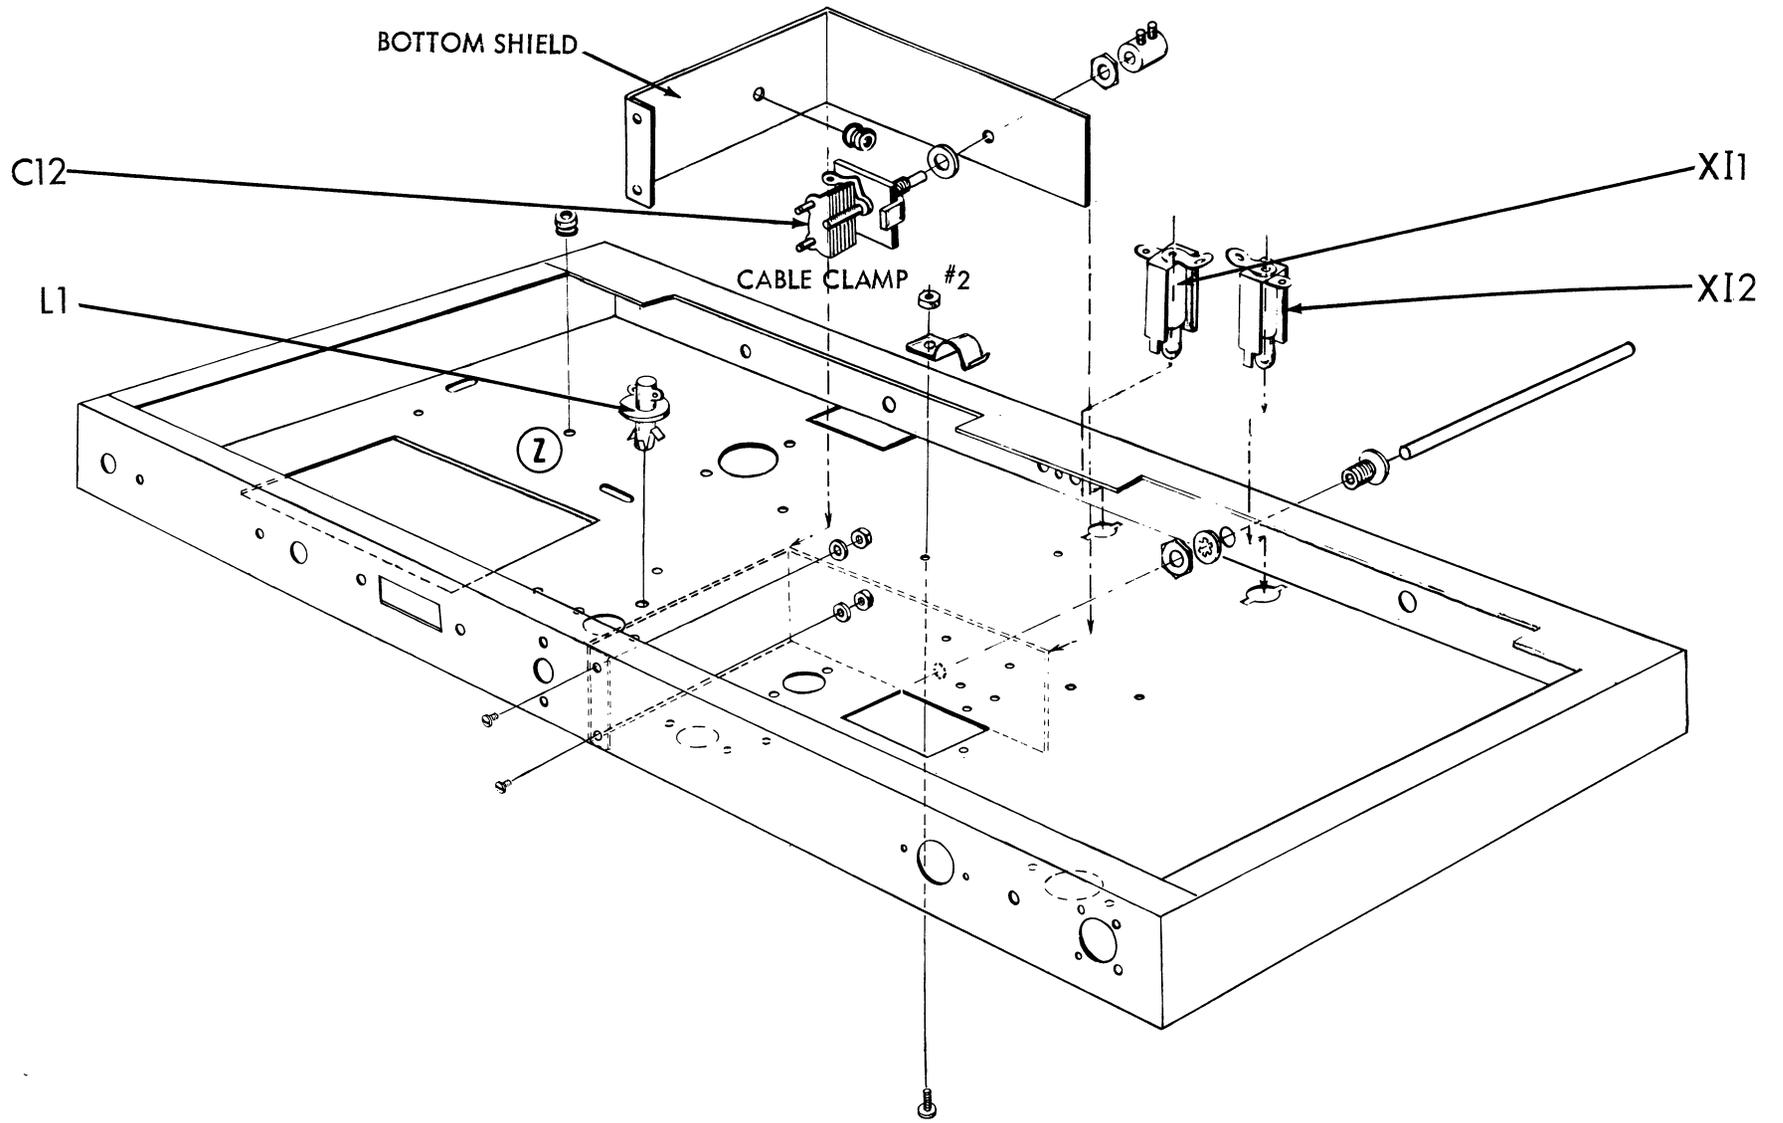
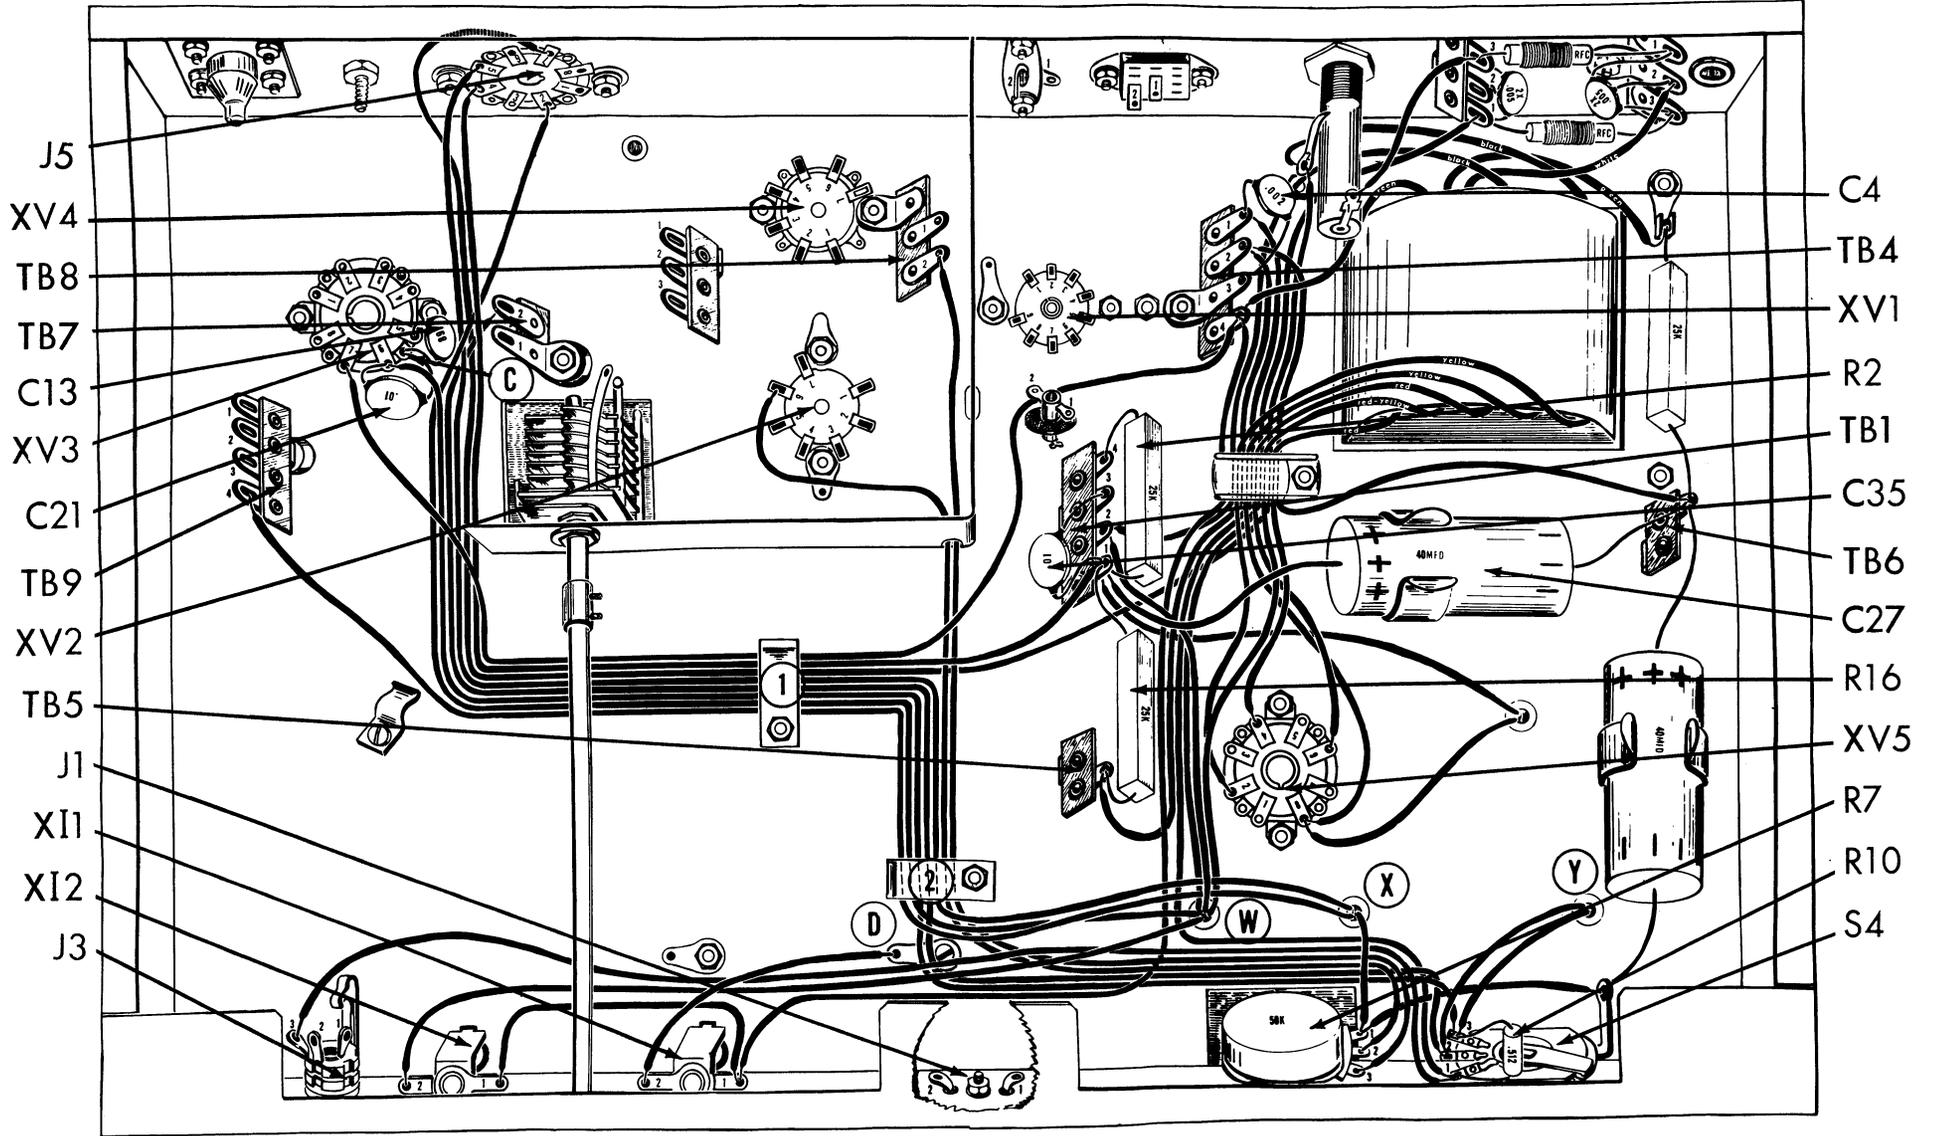

Fig. 1A
Fig. 5
1. (✓) Fig. 1A. Mount one cable clamp facing away from TB5, as shown. Use one #6-32 x 1/4 screw, one #6 lockwasher and one #6-32 hex nut. See Fig. 5.
2. (✓) Fig. 1A. Snap in the pi choke, L1, Stock #36014, as shown. Note direction in Fig. 6. Push the metal coil form bracket into the hole until the two small slips catch on top of the chassis.
3. (✓) Fig. 1A. Push the two #47 bulbs into the sockets, X11 and X12. Push these sockets with the bulbs into the mounting holes so that the bulbs extend to the top of the chassis. The sockets are held in place by the spring action of the socket legs. The clips at the end of each leg fits through the hole at the top of the chassis.
4. (✓) Fig. 1A. Mount the bottom shield in the chassis by pushing the two tabs through the small rectangular holes in the bottom of the chassis. Twist these tabs somewhat more than quarter of a turn. Do not twist too much or they will shear off. Secure the shield to the rear of the chassis with two #6-32 x 1/4 screws, two #6 lockwashers and two #6-32 hex nuts. Do not tighten nuts yet.
5. (✓) Fig. 1A. Remove the nut and all the washers from the bushing on the smallest variable capacitor, C12, Stock #29009. Next, mount the capacitor
6. (✓) Fig. 1A. Attach one side of the straight brass coupling with two set screws to the shaft on the condenser. There should be about 1/4" of the shaft of the condenser showing between the bushing on the capacitor and the edge of the brass coupling. Tighten the set screw on the capacitor shaft. Next, push the 5" shaft (mentioned in step 12, Fig. 1) through the bushing in the front panel of the chassis and into the remaining side of the straight brass coupling. Between 3/8" and 1/2" of shaft should stick out from the front of the panel. Adjust the shield and capacitor so that the shaft goes through the center of the bushing in the front panel. With the shaft perpendicular to the front panel, tighten the screws holding the bottom shield and the nut holding the variable capacitor. Also, tighten the remaining brass coupling set screw over this shaft.
7. (✓) Fig. 1A. Push a 1/4" rubber grommet into the side of the bottom shield.
8. (✓) Fig. 1A. Push a 1/4" rubber grommet into the hole "Z" near capacitors C27 and C28.
1. (✓) Fig. 5. Connect one end of a 17" piece of yellow wire to S4B-2 (C). Run the wire along the front apron of the chassis. Bend the wire at a right angle and run it under metal cable clamp 2; bend the wire again at a right angle and run through metal cable clamp 1; finally bend the wire at another right angle and run it along the chassis as shown. Connect the remaining end of the wire to TB7-2 (C).
2. (✓) Fig. 5. Cut both leads on a .01mfd (10K or 10,000mmf) disc capacitor, C21, to 1/2". Connect from XV3-6 (C) to ground lug "C" (C) at XV3.
3. (✓) Fig. 5. Cut both leads on a 68mmf disc capacitor, C13, to 1/2". Connect from XV3-5 (C) to ground lug "C" (S2) at XV3.
4. (✓) Fig. 5. Connect one end of an 18" piece of black wire to S4B-3 (C). Run the wire along the front apron of the chassis. Bend the wire at a right angle and run it under metal cable clamp 2; bend the wire again at a right angle and run it under metal cable clamp 1; finally bend the wire at another right angle and run it along the chassis as shown. Connect the remaining end of the wire to XV3-6 (S2).
5. (✓) Fig. 5. From hole "Y", connect the red wire to S4B-3 (C) and the black wire S4B-2 (S2).
6. (✓) Fig. 5. Cut both leads on a .512 ohm resistor, R10, to 1/2". Connect from S4B-1 (C) to S4B-3 (S3).
7. (✓) Fig. 5. Connect a 12" piece of brown wire from S4B-1 (S3) to J3-3 (C). Run along the front apron of the chassis as shown.
8. (✓) Fig. 5. Connect one end of a 13" piece of blue wire to R7-2 (S1) and one end of a 13" piece of red wire to R7-3 (S1). Run both wires along the front apron of the chassis. Bend both wires at a right angle and run them under the metal cable clamp 2. Run both straight along the chassis as shown, through the semi-circular opening at the bottom of the bottom shield. Connect the red wire to TB8-2 (C) and the blue wire to XV2-6 (C).
9. (✓) Fig. 5. From hole "X" connect the yellow wire to R7-1 (S2).
10. (✓) Fig. 5. From hole "X", run the orange and brown wires along the front apron of the chassis. Bend both wires at a right angle and run them under metal cable clamp 2. Bend both wires again at a right angle and run both under
11. (✓) Fig. 5. From hole "W", run the violet lead under metal cable clamp 2. Bend the wire at a right angle and run it under cable clamp 1; bend the wire again at a right angle and run it along the chassis as shown. Connect to J5-2 (C).
12. (✓) Fig. 5. Connect one end of a 12" piece of red wire to TB1-1 (C). Run it under metal cable clamp 1. Bend the wire at a right angle and connect the remaining end to J5-4 (C).
13. (✓) Fig. 5. Connect one end of a 15" piece of green wire to TB4-4 (C). Run it along the chassis as shown, under metal cable clamp 1. Bend the wire at a right angle. Connect to XV3-7 (C).
14. (✓) Fig. 5. Connect the green lead from hole "W" to X12-2 (S1).
15. (✓) Fig. 5. Connect a 4" piece of green wire from X11-1 (S2) to X12-1 (S1).
16. (✓) Fig. 5. Connect a 3" piece of black wire from ground lug "D" (C) to X11-2 (S1).
17. (✓) Fig. 5. Cut both leads on a 25K, 10 watt, wire-wound resistor, R16, to 3/4". Cover each lead with a 1/2" piece of spaghetti. Connect from TB5 (S2) to TB1-1 (C).
18. (✓) Fig. 5. Connect the blue lead from hole "W" to TB1-2 (S2).
19. (✓) Fig. 5. Cut both leads on a .01 mfd (10K or 10,000mmf) disc capacitor, C35, to 3/4". Connect from TB1-1 (C) to TB1-3 (S1).
20. (✓) Fig. 5. Cut both leads on a 25K, 10 watt, wire-wound resistor, R2, to 3/4". Connect from TB1-4 (C) to TB1-1 (C).
21. (✓) Fig. 5. Cut the positive (+) lead on the 40mfd, 450 volt electrolytic capacitor, C27, to 2 1/4" and cover with a 2" piece of spaghetti. Connect this end to TB1-1 (S6). Connect the negative (-) end to TB6 (S4).
22. (✓) Fig. 5. Cut both leads on a .002mfd (2K or 2,000mmf) disc capacitor, C4, to 3/4". Connect from TB4-1 (C) to TB4-3 (S1).